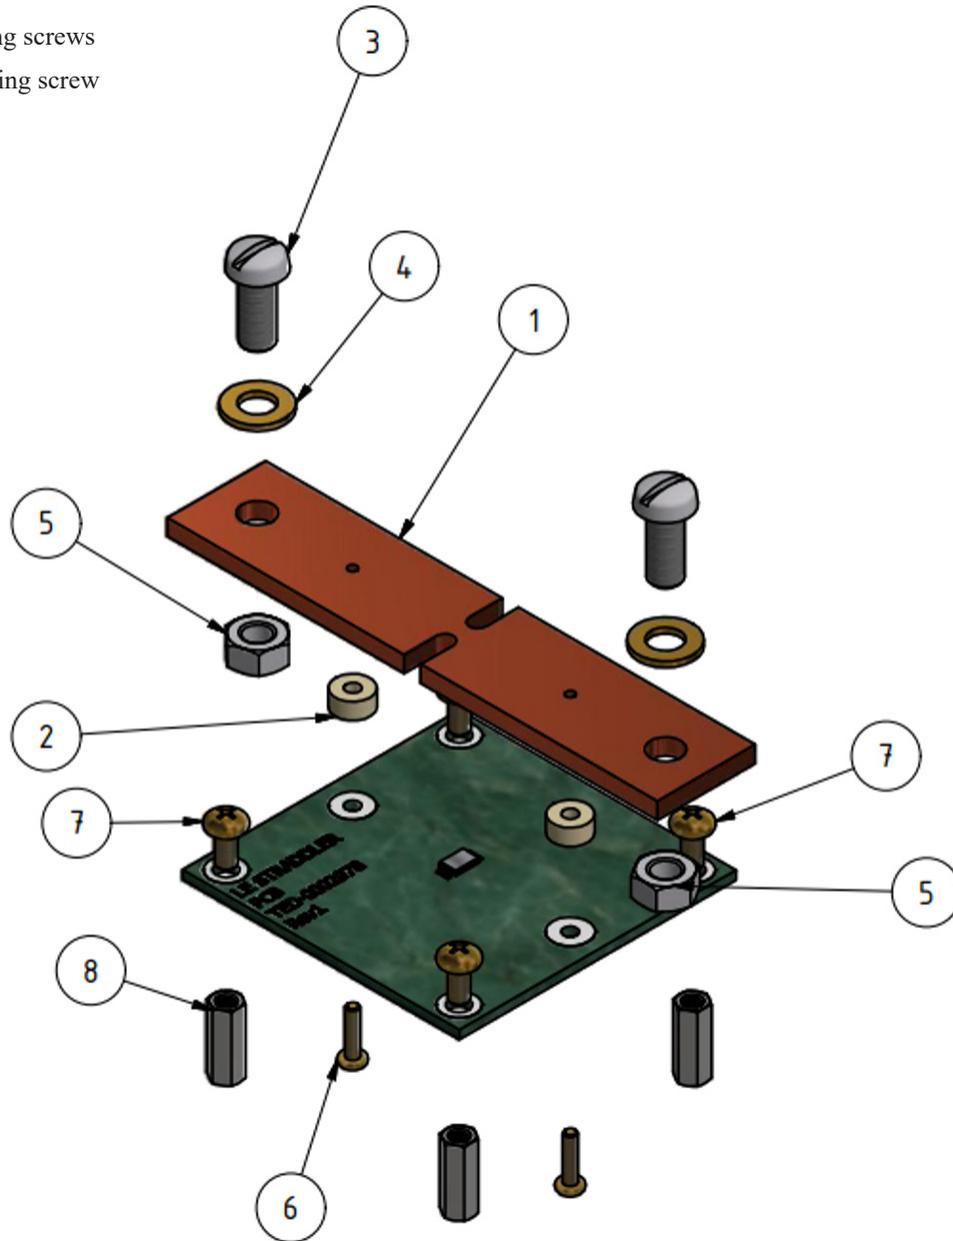
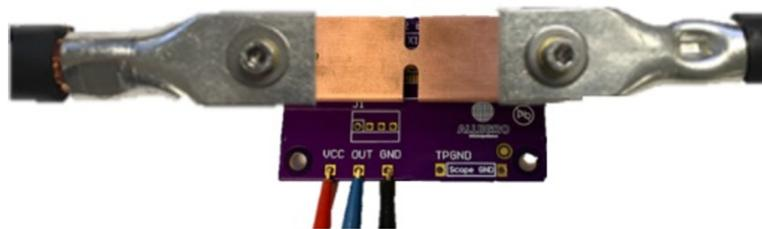

Figure 4: Exploded View of ASEK37612 Evaluation Kit Components
Figure 19: Primary Current Connections
An exploded view of the complete ASEK37612 evaluation kit is shown in Figure 4. See the Bill of Materials section below.
The reference busbar can be affixed to the top of the ASEK37612 PCB by lining up the notch with the TSSOP-8 footprint and using the busbar standoffs (item 2 in Figure 4) and the busbar mounting screws (item 6 in Figure 4). Using the 3 mm busbar standoffs and an active area depth of 0.36 mm, the approximate air gap is 2.26 mm. Note active area depth is the distance from the top of the package to the Hall plate, as defined in the ACS37612 datasheet. Note the PCB laminate has a width of 1.57 mm  $\pm$ 10%.
High current may be applied directly to the busbar using the current connection screws (item 3 in Figure 4). The high current connections are shown on the ASEK37612 evaluation board for reference below in Figure 19.